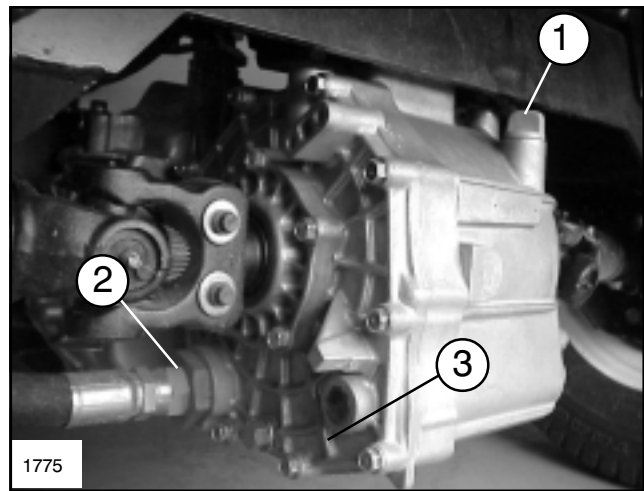

FIG. 26
2. Remove drain plug from side of reservoir and let Transaxle/Hydraulic Fluid flow into drain pan. (See FIG. 26)